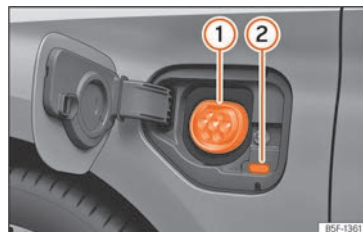

Fig. 210 Behind the battery charging cover on the front left-hand side: Charging socket
»» Fig. 210
- With the vehicle unlocked, the battery charging cover opens when it is pressed »» Fig. 210.